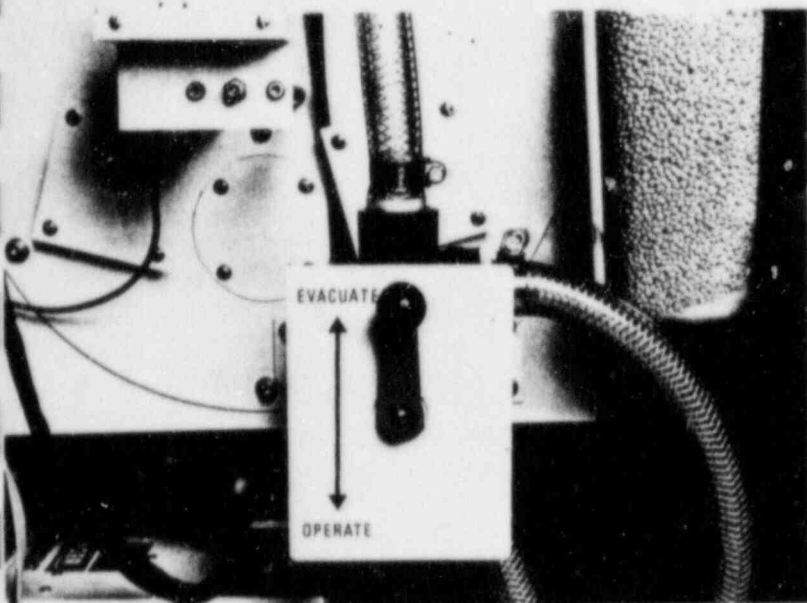

Figure 17. Flow selector valve in the Evacuate position.
5.3.2.1 With the Head Valve in the Stabilization/Xenon Washout position, turn the Operate/Evacuate valve to Evacuate. (See Figure 17.) The spirometer will automatically contract and when the volume meter reaches zero, switch back to Operate mode. In the Evacuate position the contents of the Ventil-Con are exhausted through the exhaust port.